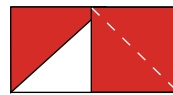
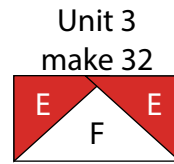

Fig. 15
Fig. 16
20. Place another 2" Fabric E square on the right side of the 2" x 3 ½" Fabric F strip, right sides together (Fig. 15). Sew across the diagonal of the square from the upper left corner to the lower right corner (Fig. 15). Flip open the triangle formed and press. Trim away the excess fabric from behind the triangle, leaving a ¼" seam allowance to make (1) Unit 3 strip (Fig. 16).
21. Repeat Steps 19-20 to make (32) Unit 3 strips total.